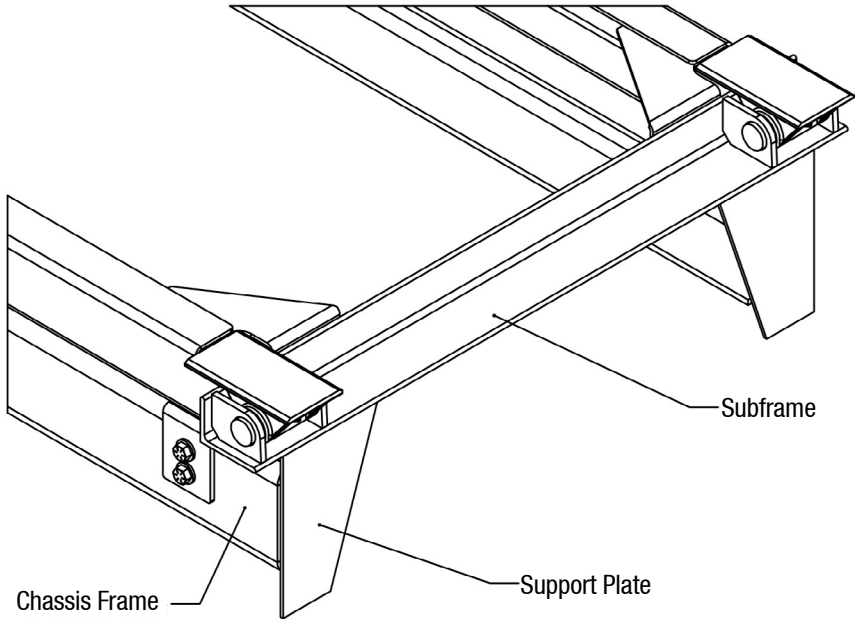

Figure 7: Support Plate Placement
4. Place the rear hinge supports plates against the rear of the truck frame and slide them up to the bottom of the rear hinge as shown in Figure 7. Securely weld them to the truck frame, the subframe, and the rear hinge. Trim off any excess material below the truck frame.